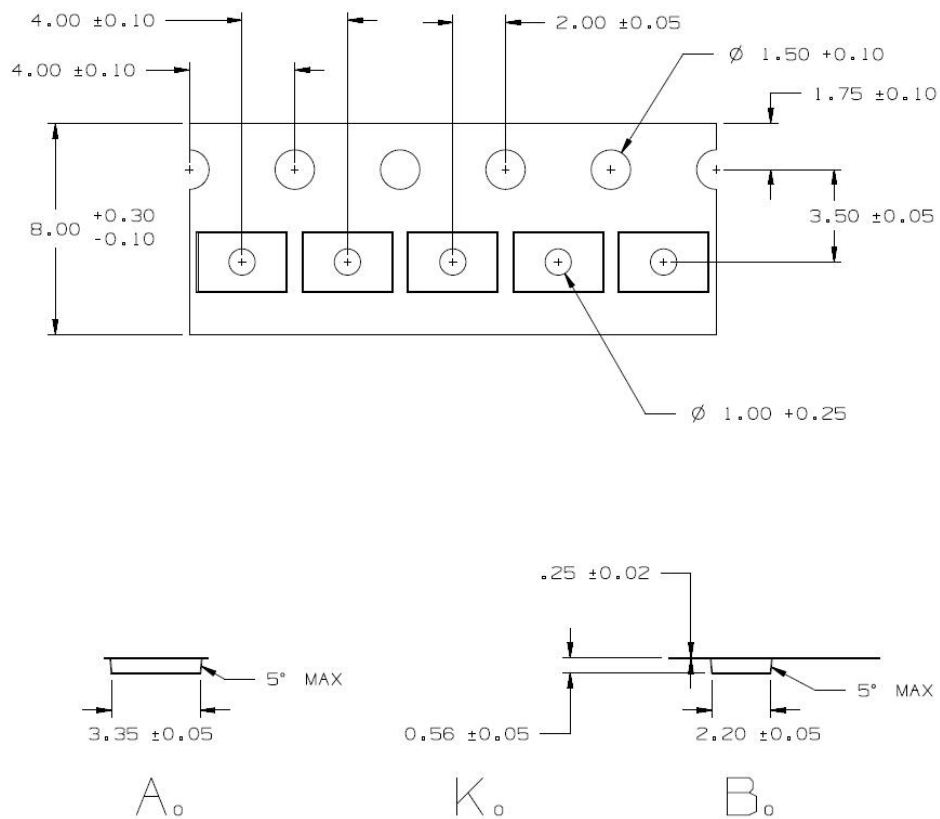

Figure 13. EA2M-SWC Tape & Reel
13. EA2M-SWC8A1G: These chips are contained in a Tape and Reel. The mechanical specifications of the trays are shown in Figure 13. Dimensions are in mm.